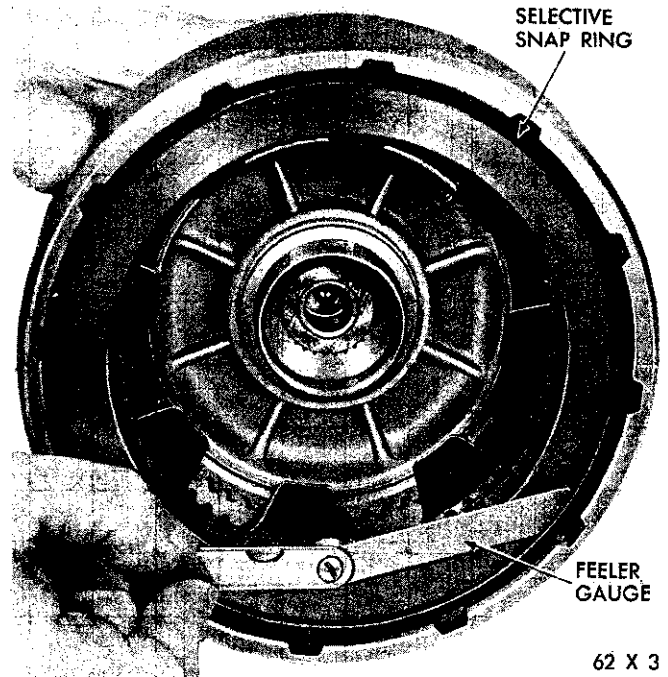

Fig. 76—Measuring Rear Clutch Plate Clearance
(6) Install the inner pressure plate in the clutch retainer with raised portion of plate resting on the spring.
(7) Lubricate all clutch plates, install one lined plate followed by a steel plate until all plates are installed. Install the outer pressure plate and snap ring.
(8) With the rear clutch completely assembled, insert a feeler gauge between the pressure plate and snap ring (Fig. 76). The clearance should be .026-.054 inch. If not, install a snap ring of proper thickness to obtain the specified clearance. Low limit clearances are desirable.